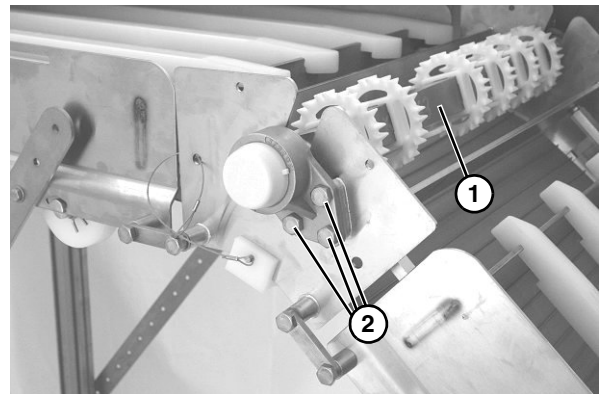

Figure 84
8. Insert spindle assembly (**Figure 84, item 1**) onto knuckle, and attach with three bolts (**Figure 84, item 2**).